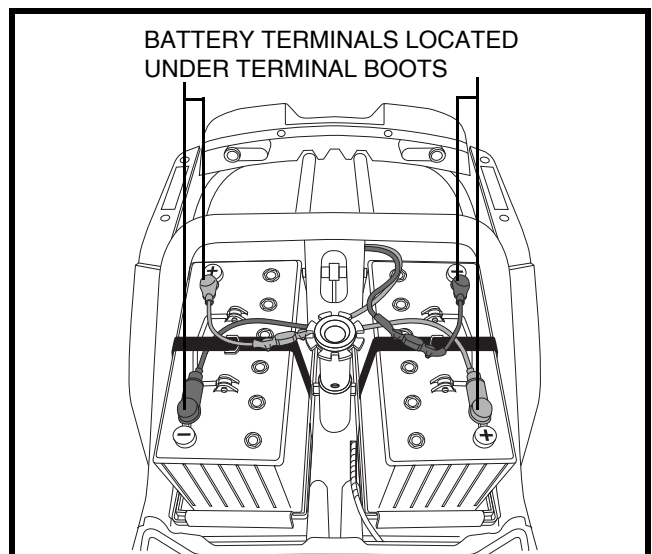

Figure 14. Battery Removal/Replacement
- Disconnect the battery cables from the battery terminals by sliding back the terminal boots and unscrewing the nut from the bolt. **See figure 14.**